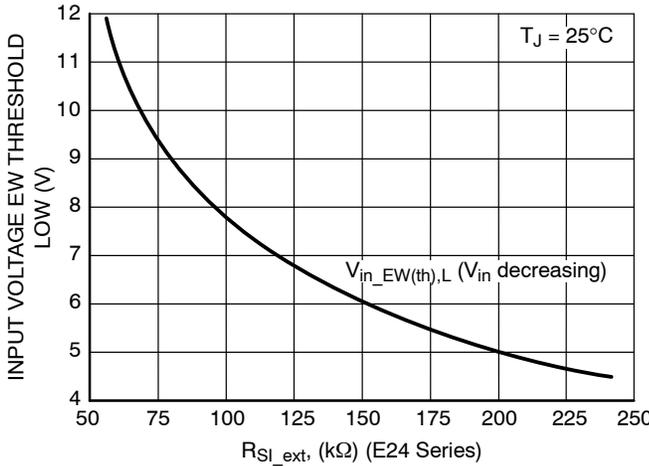
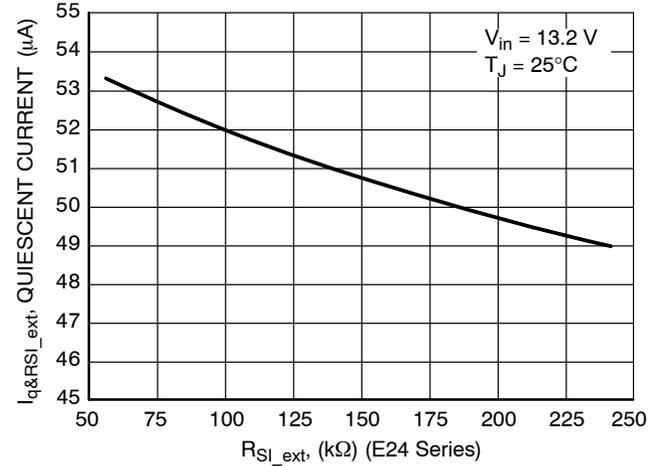

Figure 26. Input Voltage EW Threshold Low vs. R_{SI_ext} (Calculated Using E24 Series)
Figure 27. Quiescent Current vs. R_{SI_ext} (Including $I_{R_{SI_ext}}$, Calculated Using E24 Series)
13. I_q for Preset EW Threshold Options is measured when R_{SI_ext} is not used. For typical values of I_q vs R_{SI_ext} see Figure 27.
Practically only preset options above 4.5 V can be used without R_{SI_ext} due to minimum operating input voltage value limitation. For other preset options the trip point has to be adjusted externally using R_{SI_ext} resistor connected between input monitor SI and GND (see Figure 1). For other preset options R_{SI_ext} has to be used to achieve V_{in_EW(th)} > 5.5 V (minimum operating input voltage value). The value for R_{SI_ext} is recommended to be selected in range from 50 kΩ to 250 kΩ and the trip point can be shifted according to Figure 26. In case of R_{SI_ext} values higher than 200 kΩ two resistors in series could be used in order to eliminate leakage current of the resistor and hence ensure precision of its resistance value. The higher is R_{SI_ext} the lower is overall Quiescent Current of the application (see Figure 27). General formulas for calculation of V_{in_EW(th)Low} or R_{SI_ext}
The Sense Output is from an open drain driver with an internal 30 kΩ pull up resistor to V_{out} . Figure 26 shows the SO Monitor timing waveforms as a result of the circuit depicted in Figure 1. If the input voltage decreases the output voltage decreases as well. If the SI input low threshold voltage is crossed it causes the voltage on the SO output goes low sending a warning signal to the microprocessor that a reset signal may occur in a short period of time. TWARNING is the time the microprocessor has to complete the function it is currently working on and get ready for the reset shutdown signal.